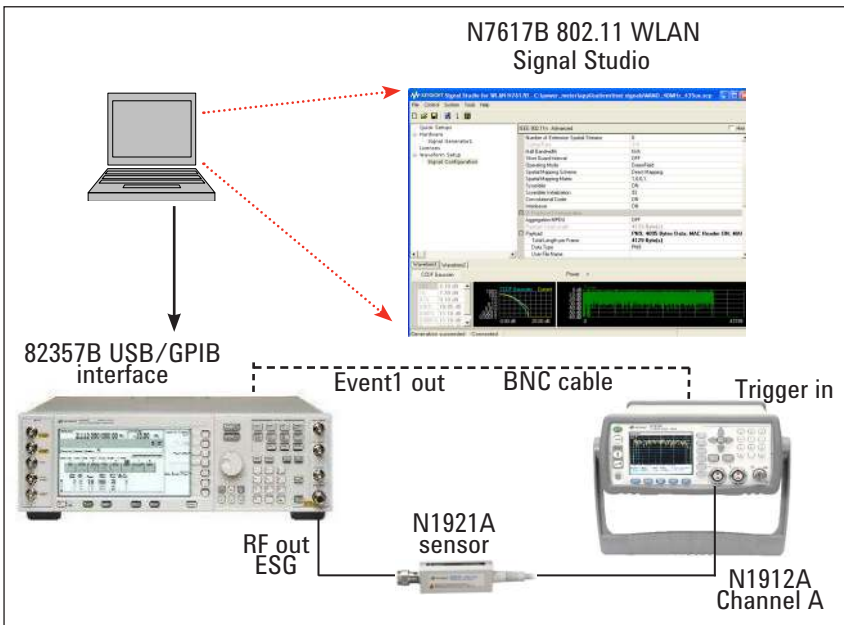

Figure 13. MIMO measurement setup using P-Series and ESG
3. Connect the P-Series power meter and sensor as shown in Figure 13 on page 12.